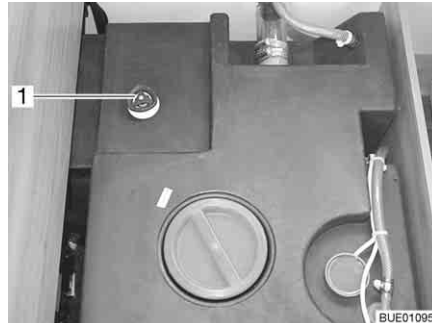

Fig. 238 Water tank with handle
- Turn the handle (Fig. 238,1) on the water tank in a clockwise direction as far as it will go.
- Turn the handle (Fig. 238,1) on the water tank in an anticlockwise direction as far as it will go. Excess water will drain away leaving 60 litres in the tank.